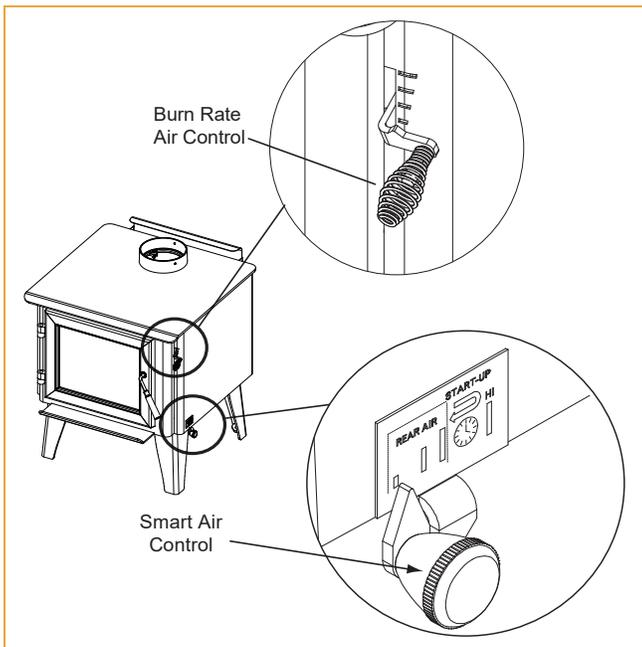

Figure 9.1
2. **Second Stage:** The next stage of burning, the secondary stage, is the period when the wood gives off flammable gases which burn above the fuel with bright flames. During this stage of burning it is very important that the flames be maintained and not allowed to go out. This will ensure the cleanest possible fire. If the flames tend to go out, it is set too low for your burning conditions. The air control located at the upper right hand corner is used to adjust for burn rates. This is called the Burn Rate Air Control (Figure 9.1).
- Then activate the Smart Air Control by pushing the knob all the way back toward the appliance to “HI” then pull forwards towards the front of the appliance until the knob stops (**Figure 9.1**).